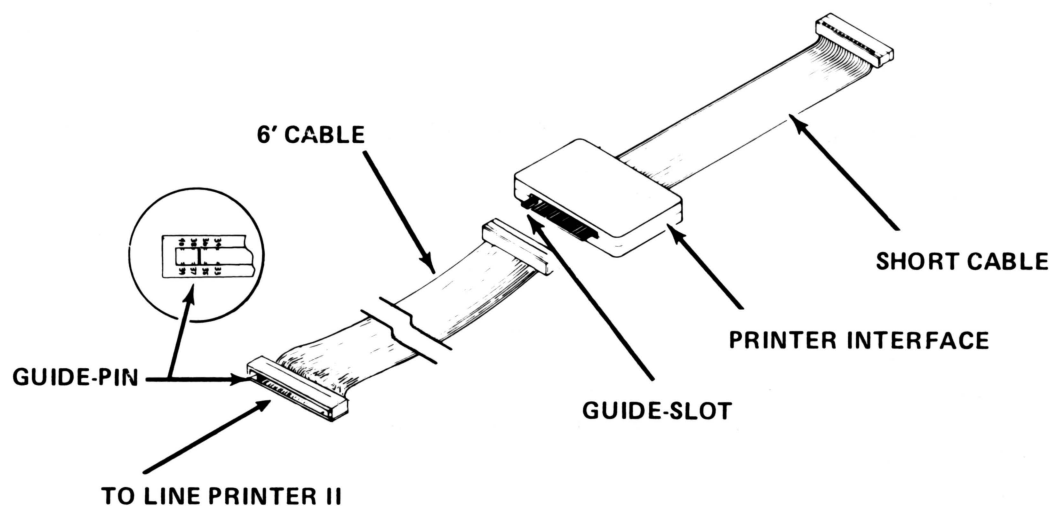

Figure 2. Connect the longer cable to the black Interface case.
4. Notice the card-edge that exits from the black Interface case. Connect the card-edge plug on the longer cable to this card-edge, again making sure the cable exits from the bottom of the connector. See Figure 2.